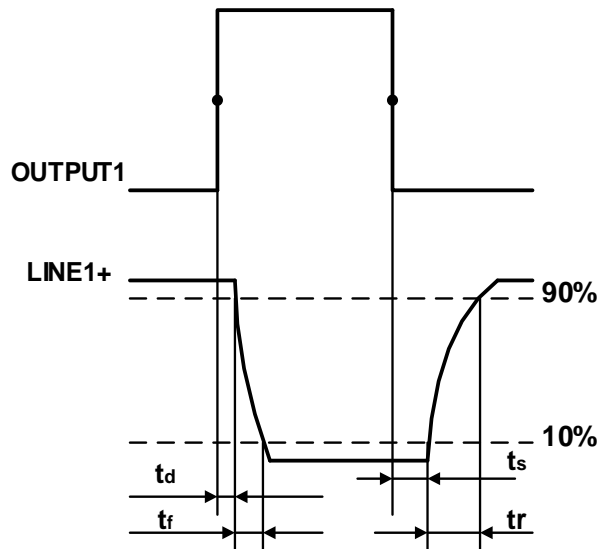

Figure 7-6 Parameter of opto-isolated output circuit
- Rising time delay =  $t_r + t_d$ :  $< 50\mu s$  ( $0^\circ C \sim 45^\circ C$ ) (parameter description is shown in Figure 7-6)
- Falling time delay =  $t_s + t_f$ :  $< 50\mu s$  ( $0^\circ C \sim 45^\circ C$ ) (parameter description is shown in Figure 7-6)
- Rising time delay =  $t_r+t_d$ :  $<20\mu\text{s}$  ( $0^{\circ}\text{C}\sim 45^{\circ}\text{C}$ ) (parameter description as shown in Figure 7-6)
- Falling time delay =  $t_s+t_f$ :  $<20\mu\text{s}$  ( $0^{\circ}\text{C}\sim 45^{\circ}\text{C}$ ) (parameter description as shown in Figure 7-6)